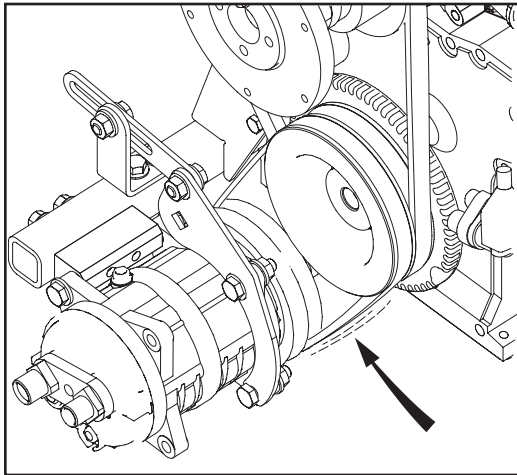

Fig. 127
- Inspect the entire circumference of the V-belt (Fig. 127) visually for damage and cracks. Replace damaged or cracked V-belts.